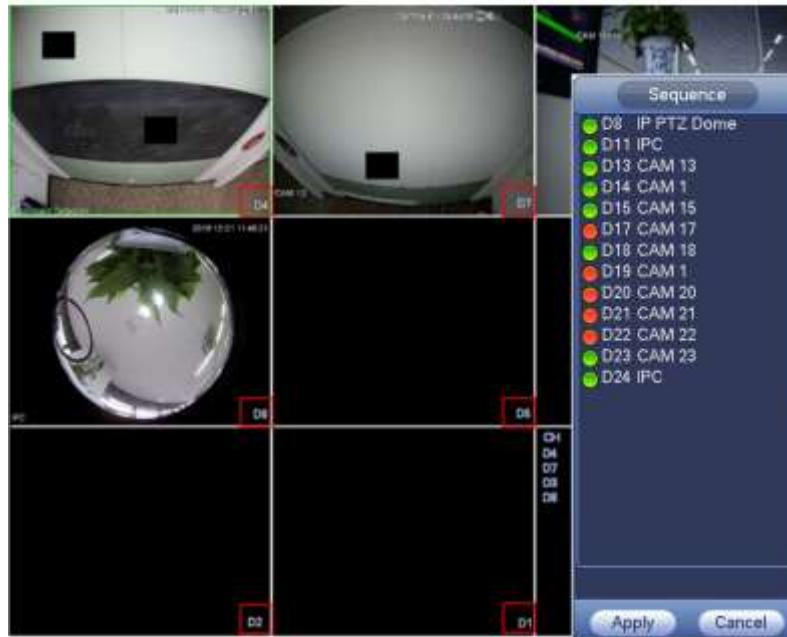

Figure 4-72
- Check the channel number at the right bottom corner to view the current channel sequence. See Figure 4-72.